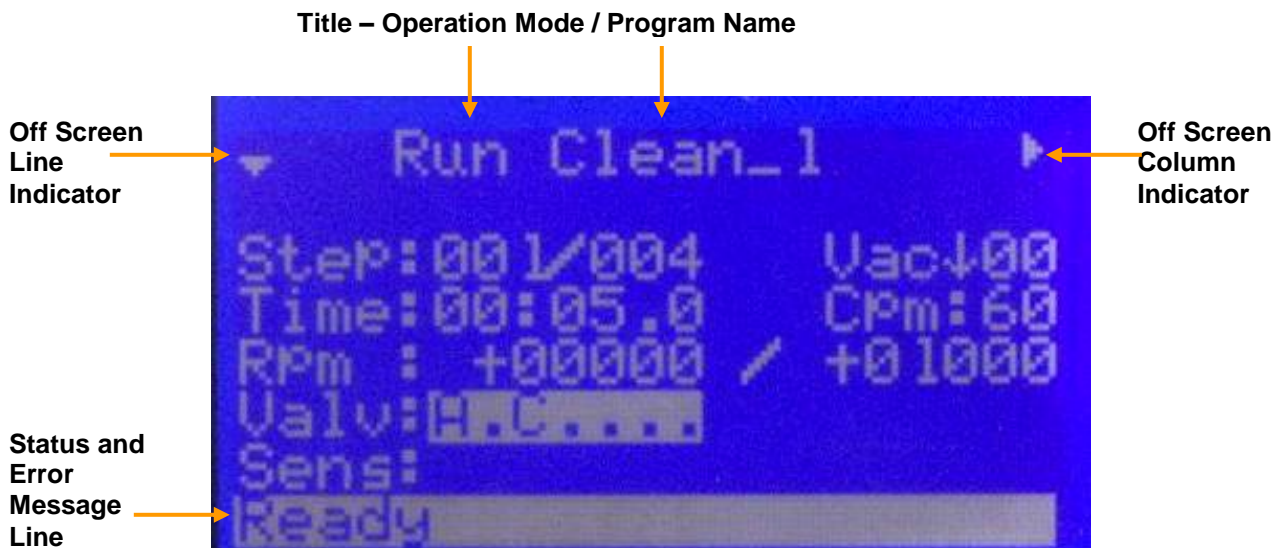

Figure 3-11
Press the “Run Mode” key to enter a selected program into the run mode. Figure 3-11 shows the Run screen.
The off-screen line indicator, see figure 3-11, appear at the upper left-most side of the display and uses up or down arrows, or both, to indicate additional menu lines either above or below the portion of the menu currently being viewed.
3.4.2.1 “RUN MODE” – Displayed Fields – see figure 3-11